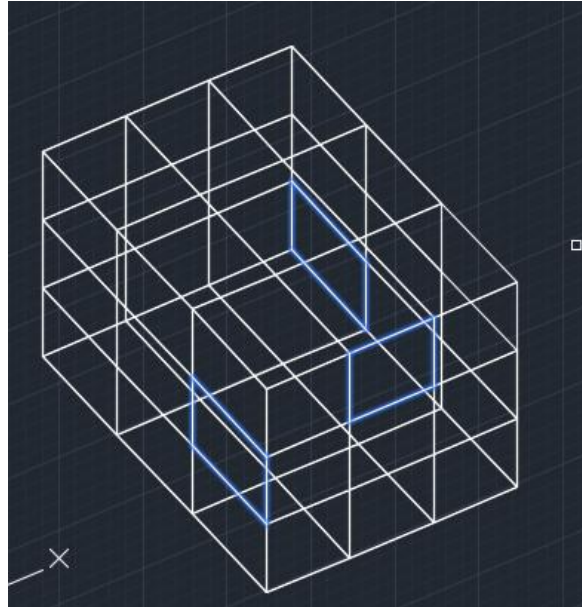

Figure 6 Mesh parts selected separately
- Try to set the variables as presented in Figure 6 b). Recreate the cube and apply extrude. Try to access the parts.